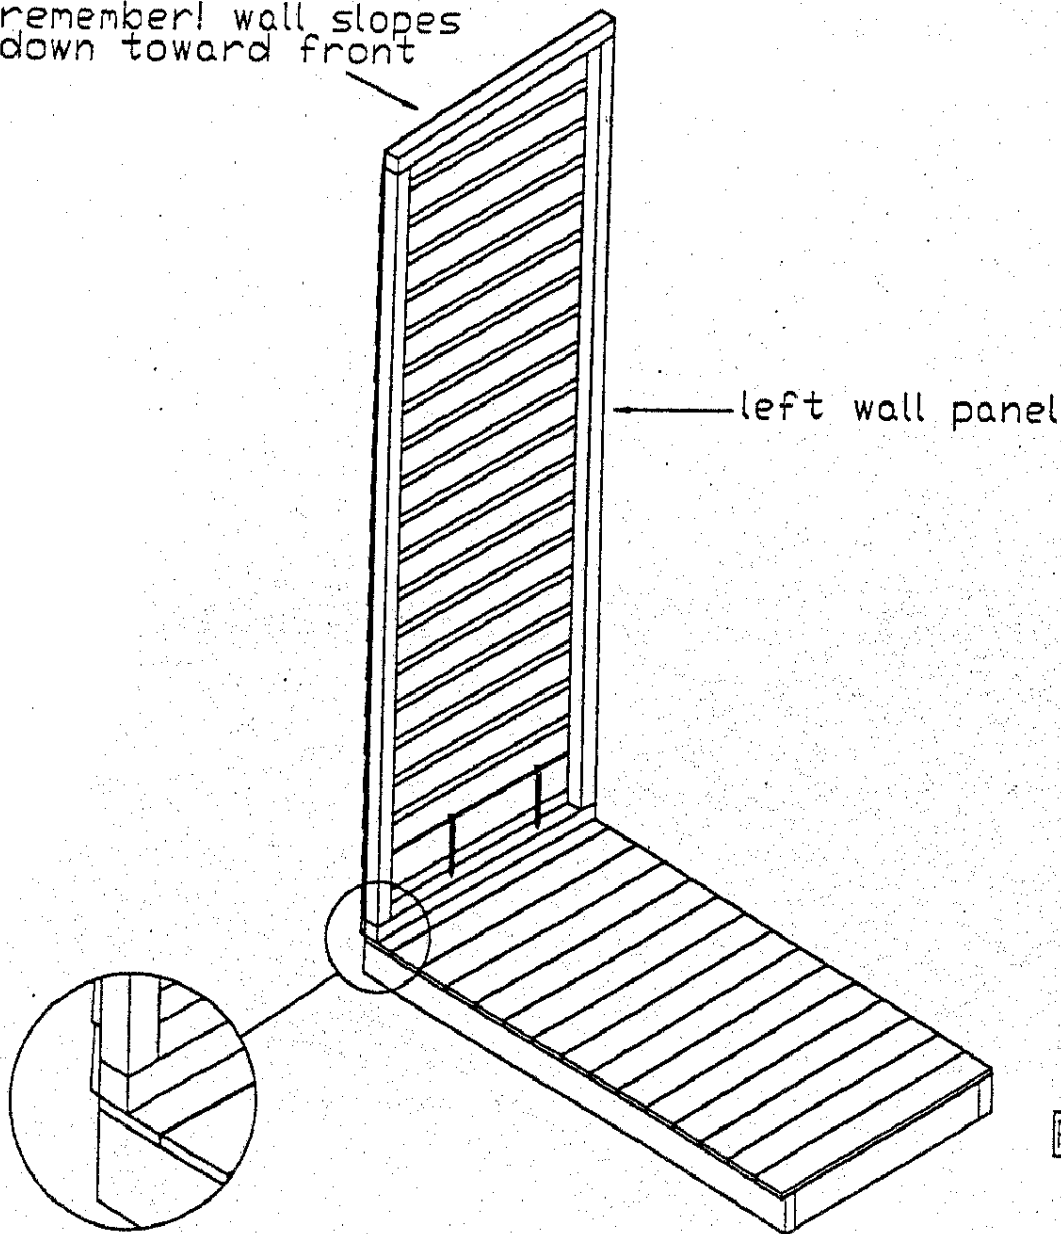

FIGURE 2
3. Take the left sidewall panel and position it on the floor so that the bottom 2x2 wall plate is flush with the outside, front and rear of the decking edges [see Figure 2]. Secure to the floor with two 3" screws as shown.